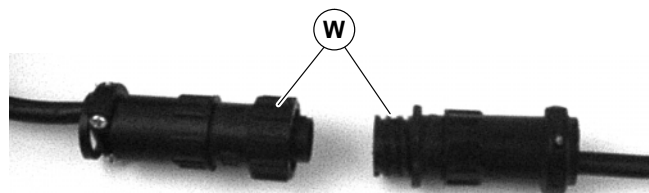

Figure 14
2. For DC variable speed motor, unplug motor cord at disconnect (W of Figure 14).